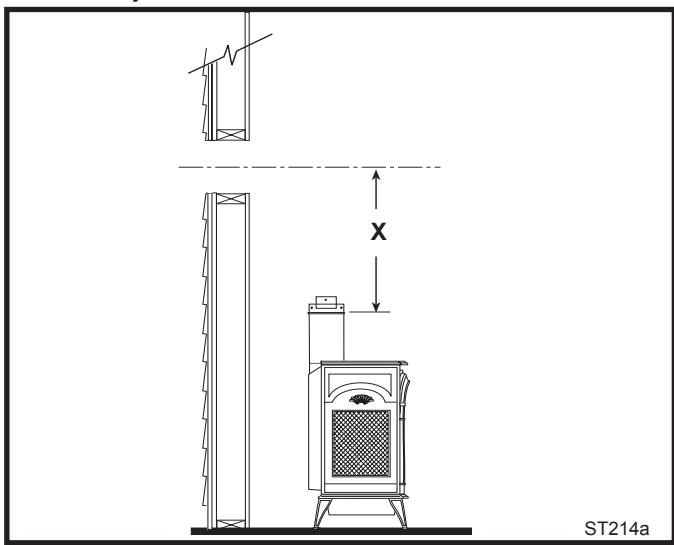

Fig. 25 Determine the vertical pipe length.
- 4. **For MHSC Vent Pipe only:** If necessary, measure to determine the vertical length (X) of pipe required from the adapter pipe to the wall cutout centerline, including a 2" overlap at the joint. (Fig. 25) use a hacksaw or tin snips to trim the pipe as needed.